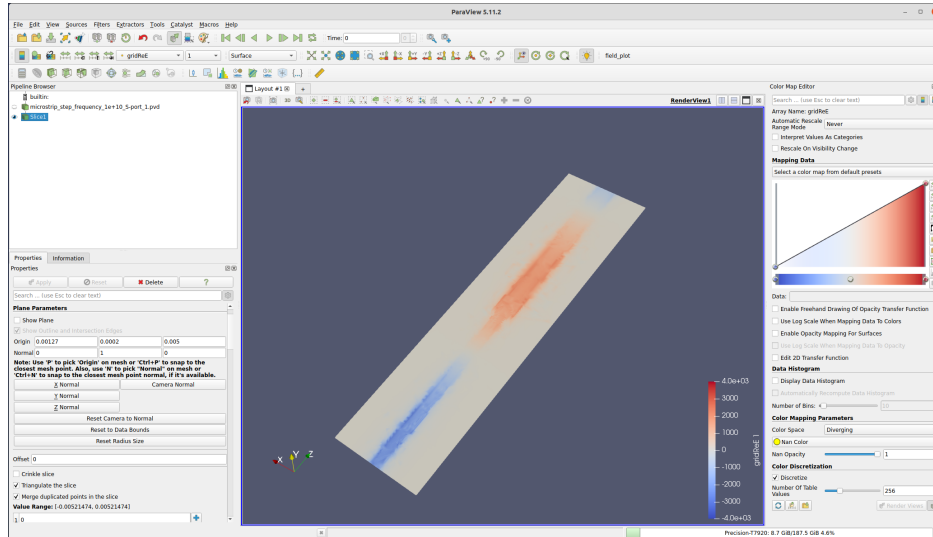

Figure 15: Screenshot of $\text{Re}(E_y)$ just under the microstrip lines.
- A screen shot of the resulting $\text{Re}(E_y)$ field just under the microstrip traces is shown in Fig. 15.